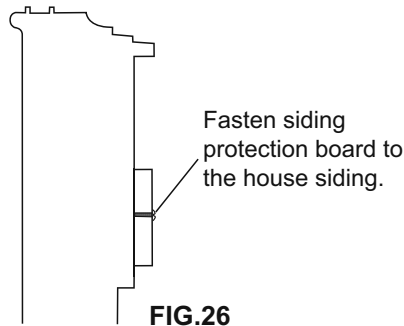

FIG.26
**29** Securely attach a siding-protection board to the side of the house where the platform assembly hit the house as shown (FIG.26). The siding-protection board should be long enough to span 2 wall studs.